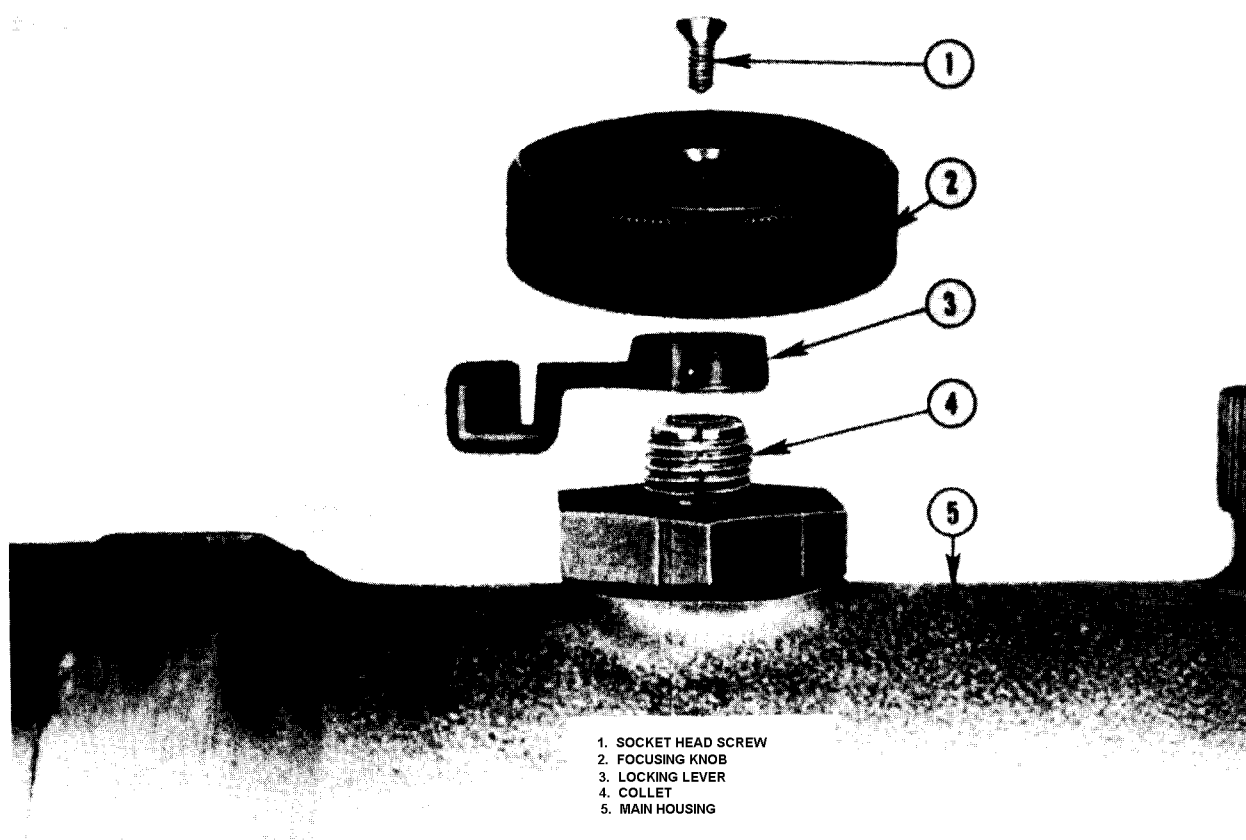

Figure 4. Removal of focusing knob and locking lever.
- (1) The objective lens focusing knob is removed by using the allen wrench and unscrewing the socket head screw located in the center of the knob. Lift the knob from the collet (fig. 4).
- (2) Remove the locking lever from the collet by turning counterclockwise (fig. 4).